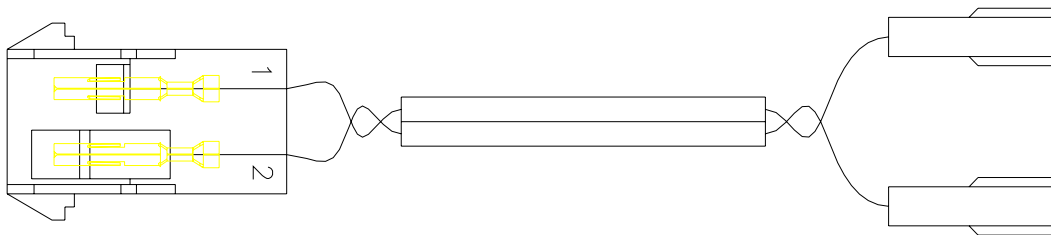

**Figure 6, EXISTING TEC2000 CONTROL PANEL DETAILS FOR ALL CABINET MODELS**
4. Disconnect 24VAC input power cable, ground leads, temperature cable, display cable, purge/fill valve harness, and tubing from the rear panel. Reference Figure 6.
20. Clip the Molex connector from the end of the purge and fill valve output harness connector that was attached to the original control panel. Reference Figure 6.
5. Disconnect 24VAC input power cable, ground leads, temperature cable, display cable, purge/fill valve harness, and tubing from the rear panel. Reference Figure 6